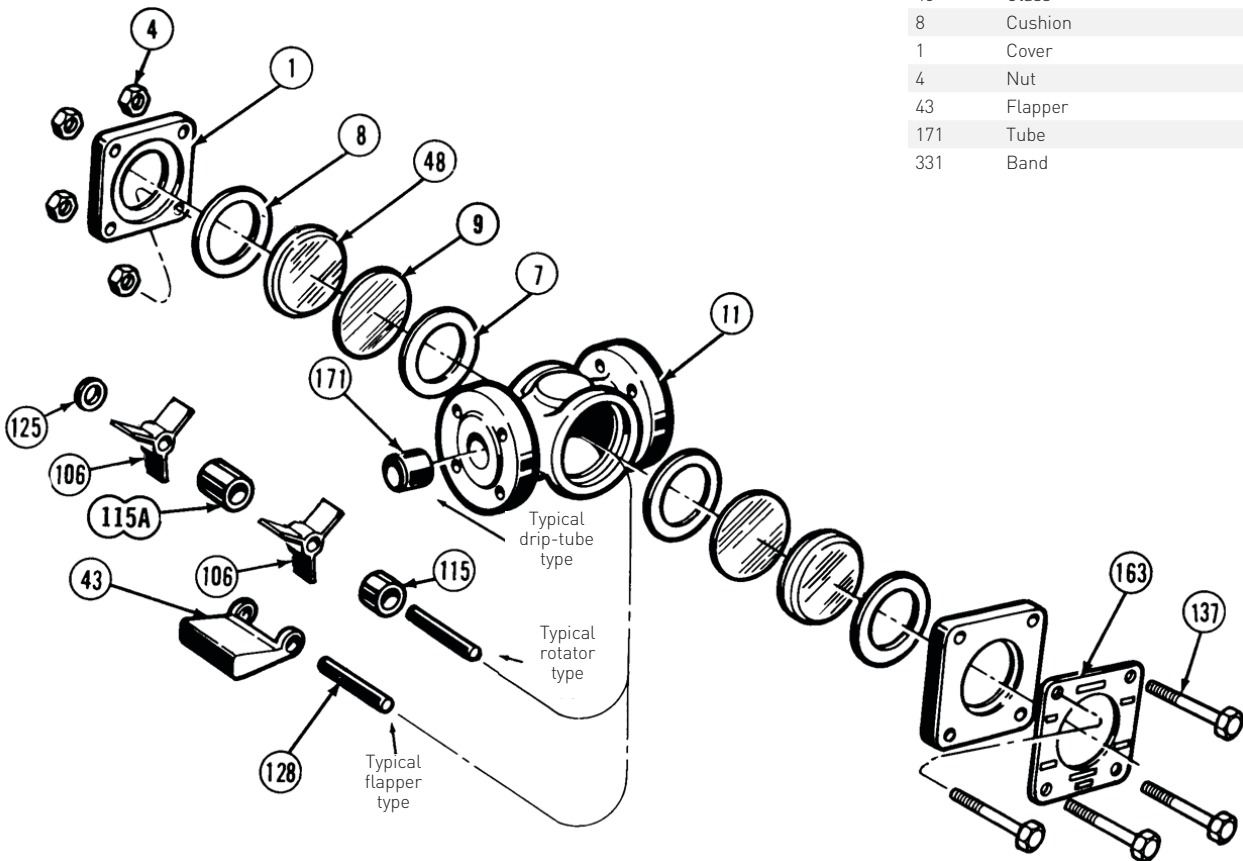

FIGURE 4
- Refer to exploded view Figure 4.
- Prepare for installation of new glass (48) by first cleaning the gasket seating surfaces on body (11) and the cushion seating surfaces on glass covers (1). This should be done using a soft metal scraper (preferably brass) to remove all burrs, rust, and bits of old gasket or cushion which may be present. Exercise extreme care to avoid gouging or scarring gasket or cushion seating surfaces
- d. Place the sight flow indicator in a horizontal position and assemble the components as shown in Figure 4. Install band (331) around glass and place glass centered within the body and cover.
- e. Threads on bolts (137) and nuts (4) must be clean of paint, rust, and scale. Apply a light coat of oil to the threads and insert bolts through nameplate and two (2) covers, and install nuts finger tight.